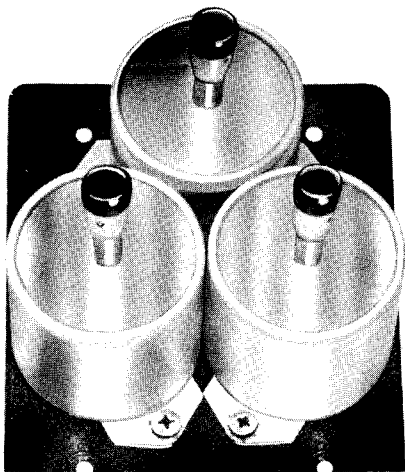

Figure 1-8. Type CU-24/ART-13 Antenna Shunt Capacitor
a. The Type CU-24/ART-13 Antenna Shunt Capacitor (figure 1-8.) is supplied to permit operation in the frequency range 2000 kc to 3000 kc using the conventional type of short, fixed, aircraft antenna.